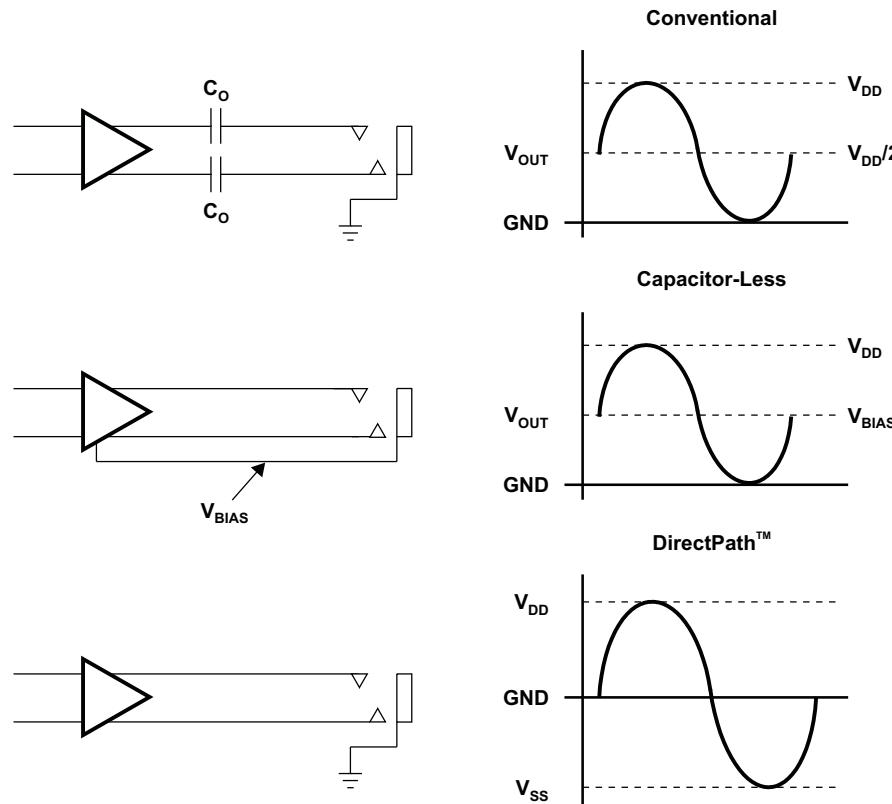

Figure 37. Amplifier Applications
The headphone amplifier has a fixed gain of -1.5 V/V . It uses single-ended (SE) inputs. The DirectPath™ amplifier architecture operates from a single supply but makes use of an internal charge pump to provide a negative voltage rail. Combining the user-provided positive rail and the negative rail generated by the IC, the device operates in what is effectively a split supply mode. The output voltages are now centered at zero volts with the capability to swing to the positive rail or negative rail. The DirectPath™ amplifier requires no output dc blocking capacitors and does not place any voltage on the sleeve. The block diagram and waveform of Figure 37 illustrate the ground-referenced headphone architecture. This is the architecture of the TPA6047A4.
Single-supply headphone amplifiers typically require dc-blocking capacitors. The capacitors are required because most headphone amplifiers have a dc bias on the outputs pin. If the dc bias is not removed, the output signal is severely clipped, and large amounts of dc current rush through the headphones, potentially damaging them. The left-side drawing in Figure 37 illustrates the conventional headphone amplifier connection to the headphone jack and output signal.
Two different headphone amplifier applications are available that allow for the removal of the output dc blocking capacitors. The capacitor-less amplifier architecture is implemented in the same manner as the conventional amplifier with the exception of the headphone jack shield pin. This amplifier provides a reference voltage, which is connected to the headphone jack shield pin. This is the voltage on which the audio output signals are centered. This voltage reference is half of the amplifier power supply to allow symmetrical swing of the output voltages. Do not connect the shield to any GND reference, or large currents will result. The scenario can happen if, for example, an accessory other than a floating GND headphone is plugged into the headphone connector. See the second block diagram and waveform in Figure 37.